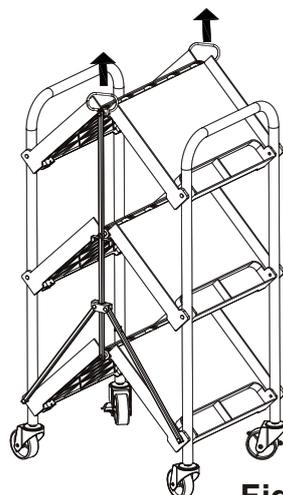

Fig.1
1. Unfold the trolley by grasping the side handles and pulling apart. The bi-fold trays will unfold until they are flat (Fig. 1).